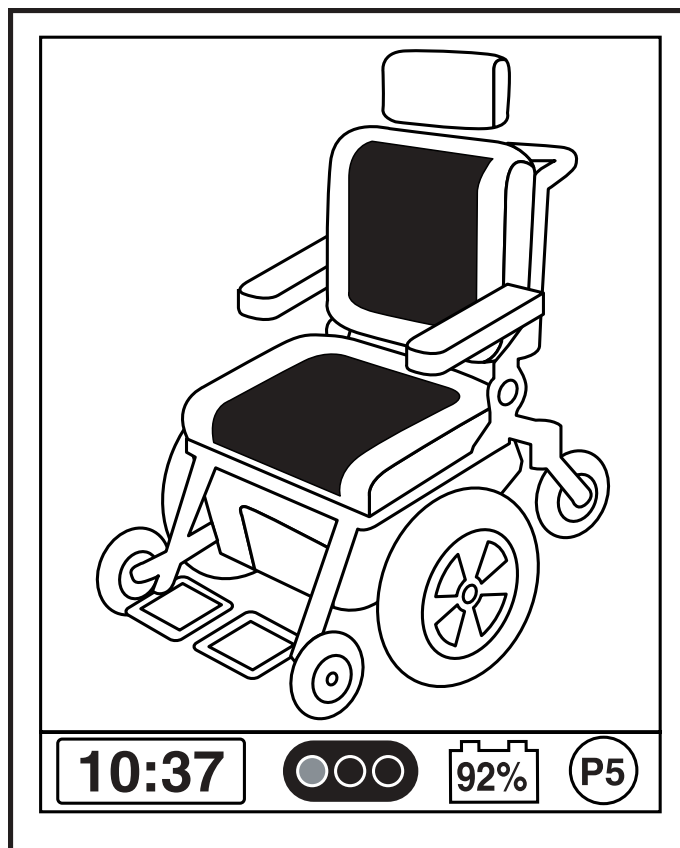

Figure 7. Q-Logic Joystick of Seat Icon/Display
- The seat icons appear on the joystick display, but the unit does not tilt. **See figure 7.**